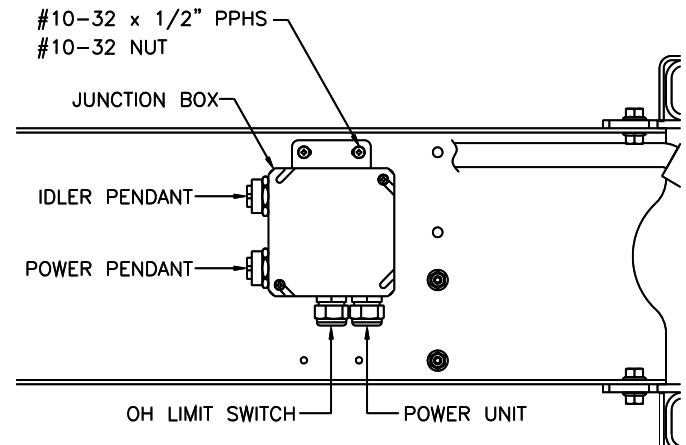

Fig. 23 – Junction Box Assembly
- 65) Install Junction Box Assembly to inside of Over Head with (2) #10-32 x 1/2" lg. Phillips pan head screws and flange nuts, **Fig. 23**.
- 68) Attach both Pendant end connectors to receptacles on Junction Box, **Fig. 23 & 25**.